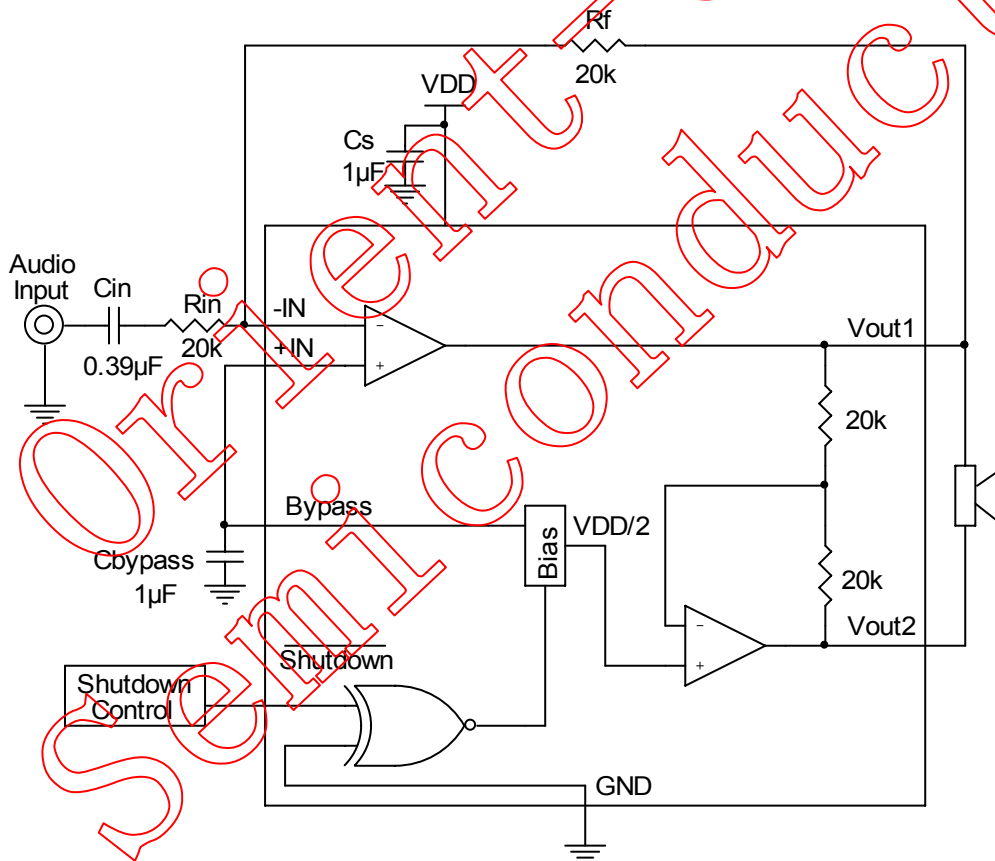

Figure 1 Typical Application Circuit
- PSRR at 217Hz, V_{DC}=5V (Fig.1) 77dB(typ.)